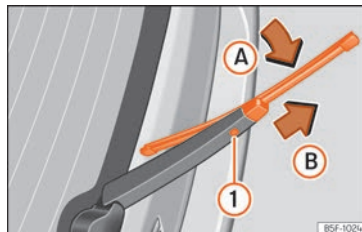

Fig. 42 Changing the rear wiper blade
- Turn the blade slightly »» Fig. 42 (arrow ❸).
- Hold down the release button ❶ while gently pulling the blade in the direction of arrow ❷.
- Insert a new blade of the **same length and type** in the rear wiper arm in the opposite direction to the arrow ❷ and hook into place button ❶.